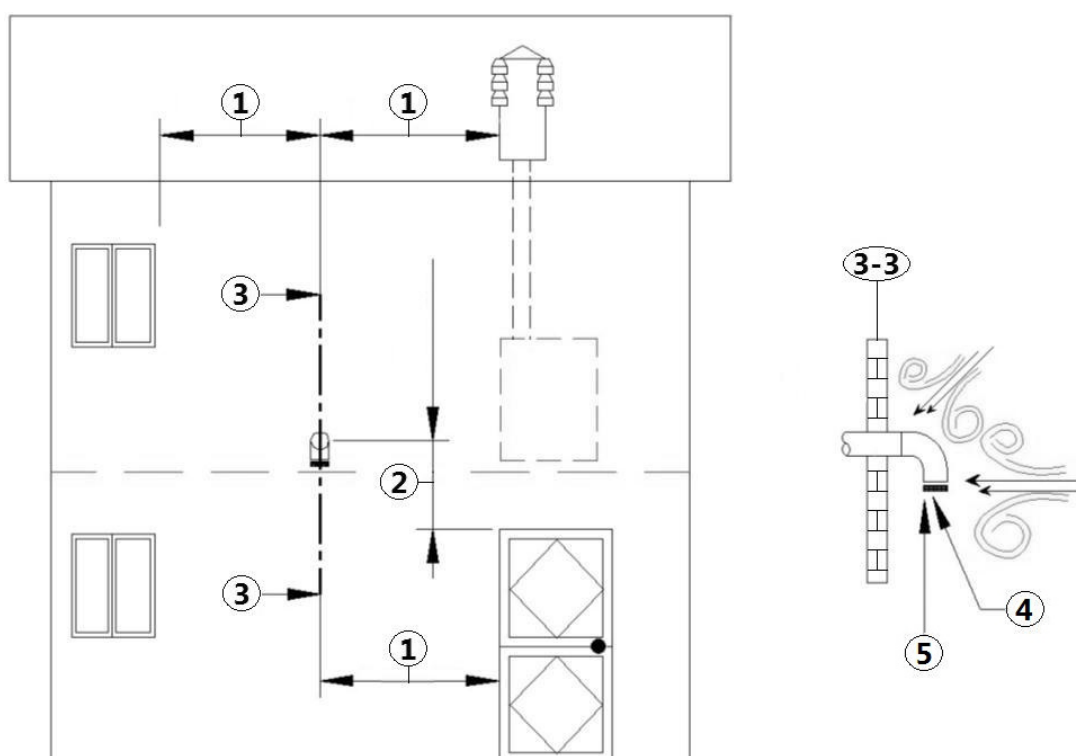

Fig. 8 - Combustion air
LEGEND	Fig. 8 page 9
- On the external wall it is necessary to install a curve at 90° to protect the combustible air inflow from wind effects: turn the curve inlet downwards, see **Fig. 8 page 9**.